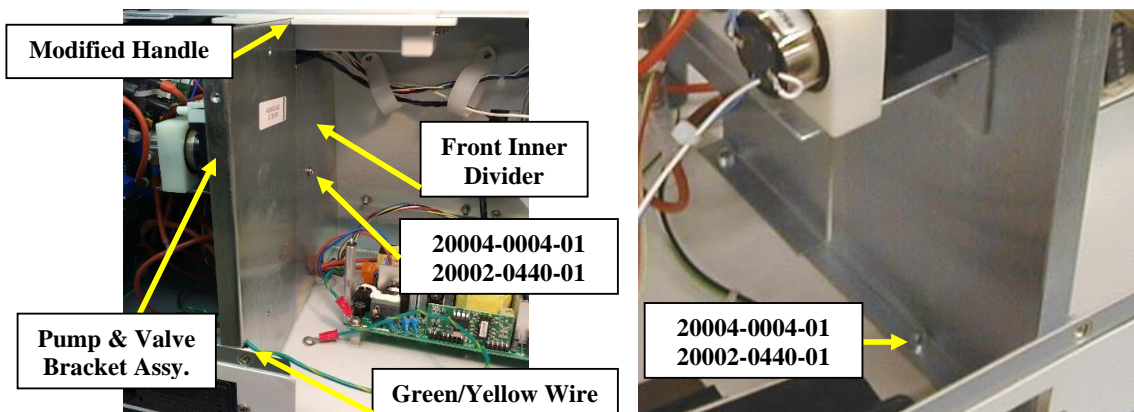

Figure 50
shown in Figure 50 (left). Make sure to fit the Bracket Assembly into the slot on the Modified Handle as shown. Route the longer green/yellow wire from Power Entry Module behind the Bracket Assembly.
- 19.3. Secure the Bracket Assembly to the Chassis using a 4-40x1/4" Pan Head Screw (20004-0004-01) and #4 Lockwasher (20002-0440-01) through the bottom of the chassis as shown in Figure 50 (right). Move the Bracket assembly as far away from the Power Entry module as possible.